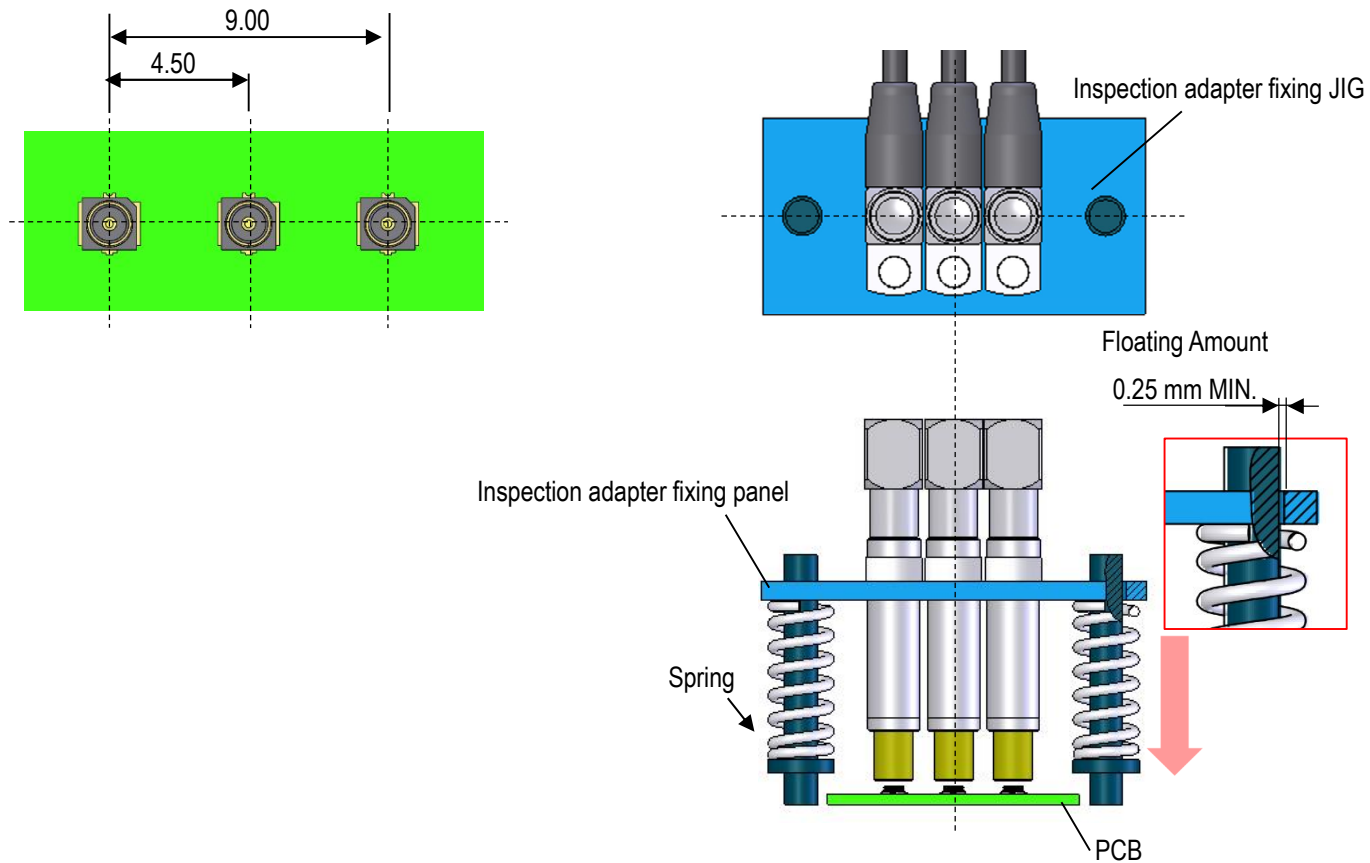

Figure.9 Inspection adapter use case
Figure 9 outlines the fixing JIG for high cycle adapter. This high cycle adapter does not have the floating structure. Use the fixing JIG which has the floating structure of 0.25 mm or greater. See figure 2 for recommended panel cutout for fixing the inspection adapter.
1. When designing the JIG set, please refer to figure 9.